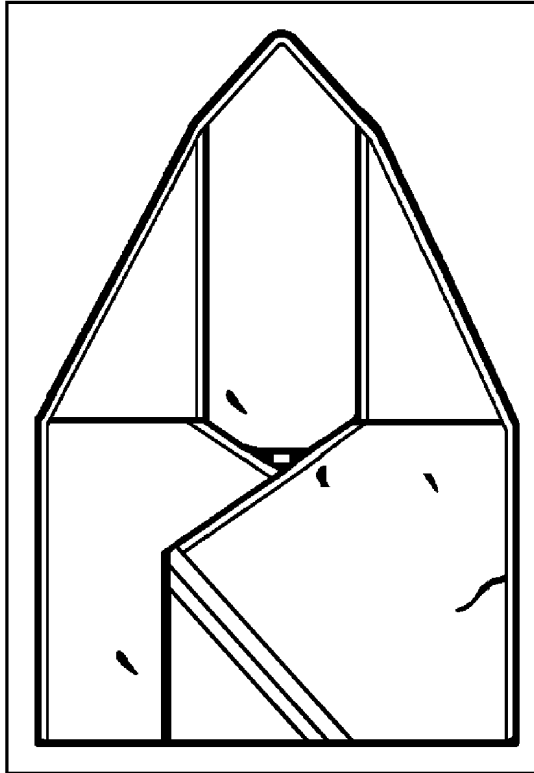

Figure 3-13
- i. Make a slight tuck in the top layer of the fourth corner, using the material located along and just in front of the pack. (See Figure 3-13.)